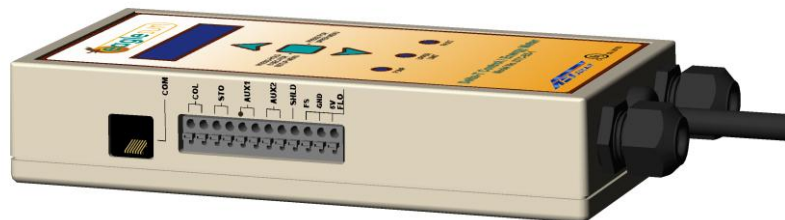

Figure 1
The control is equipped with distinct wiring blocks for communications (COM), sensor and pump wiring. Low voltage connects (COM and sensors) are located on the side of the control, whereas, the pump connections (line voltage) are internal to the control and labeled for variable and fixed speed functions (see Figure 1). Variable speed pumps should utilize the variable speed wiring and fixed speed pumps should use the fixed speed connections.
The control is designed for BTU measurement/recording using a Grundfos, type VFS, Vortex Flowsensors (as shown in Figure 4). The flow sensor is to be plumbed into the feed line to the collector(s), within ten (10) pipe diameters from the storage tank and a minimum of four (4) pipe diameters from an upstream bend in the plumbing. For flow sensor wiring, flow and temperature signals share the same ground, therefore, only one wire (yellow) is required to connect across the sensor terminal. Secure the yellow wire to the AUX1 terminal adjacent to STO as indicated by the dot in Figure 1. Flow sensor wire connections are as follows: